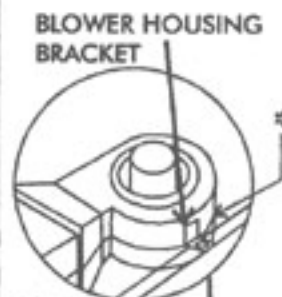

FIGURE 9B
- ON SOME 1967 TRUCKS THE BLOWER HOUSING BRACKET WILL HAVE TO BE MOVED 4 INCHES TOWARD THE PASSENGER SIDE - LOCATE THE BLOWER HOUSING BRACKET IN THE KIT AND MOUNT IN THE PROVIDED HOLES. DISCARD THE ORIGINAL BRACKET (SEE * IN FIGURE 9B).
- ATTACH BLOWER HOUSING BRACKET USING 1/4" x 1" BOLT, FLAT WASHER, LOCKWASHER AND NUT THROUGH OEM HOLE IN THE BOTTOM LIP OF THE DASH - SEE FIGURE 9B.